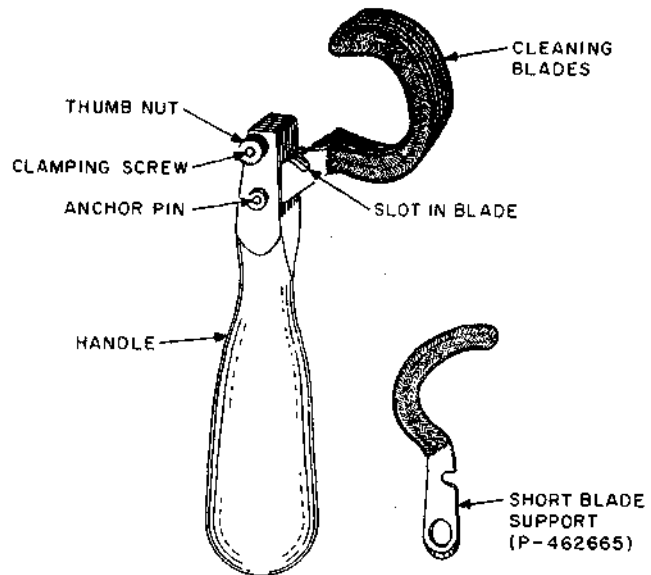

Fig. 11—Method of Removing Blades from Bank Cleaners
**Note 2:** Use P-462665 short blade support shown in Fig. 11.
(1) Loosen the thumb nut. Remove the blade support by forcing it backward so the slot in the support is free of the thumb nut. Then force the blades backward until the upper slot is free from the screw in the handle as shown in Fig. 11, and remove the blades from the handle.
(2) Remove the sleeving from each pair of blades by grasping the sleeving at the inner end and working it toward the tip of the blade. At the same time, lift it alternately toward the inner and outer edges of the blade to disengage the sleeving from the notches on the blade.
(3) Resleeve the blades in pairs as shown in Fig. 11. Use 36A sleeving for sleeving the 402E cleaner and 36B sleeving for sleeving the 517A or 517B cleaner. Both the 36A and 36B sleeveings are cut to the correct length for these cleaners.